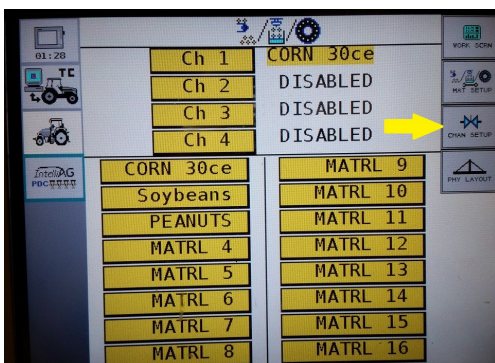

Figure 44
Step 3. Select **Channel Setup** from icons on right hand side of VT. (Figure 44)